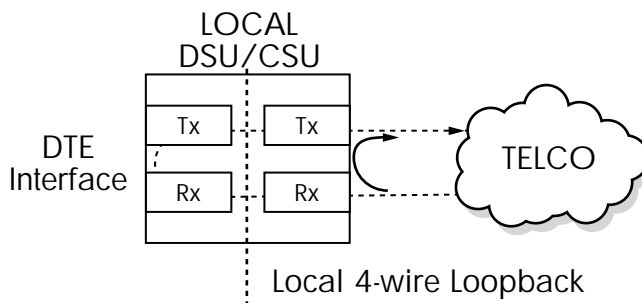

Figure 11-7
The Loop Only (RT) test allows the loop interface and a major portion of the DTE interface for the local DSU III DBU to be tested from the remote site over the actual communication circuit. Figure 11-7 illustrates the loopback point and the signal paths for this test.